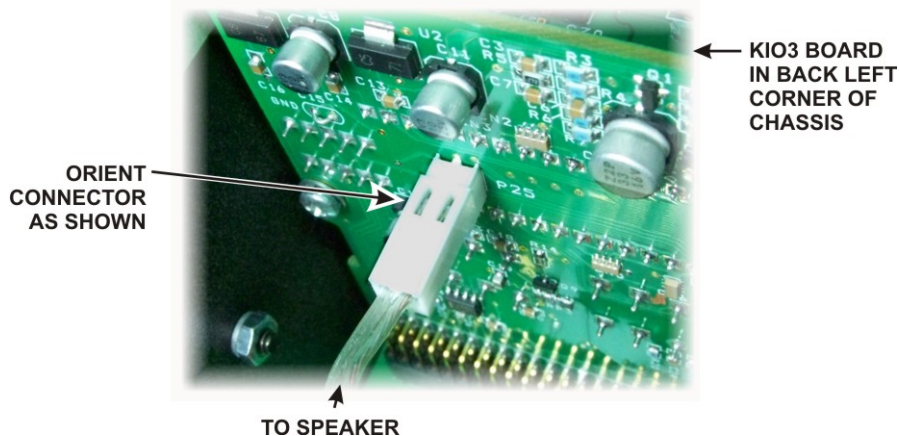

Figure 16. Connecting Speaker Cable.
- Hold the top cover above the K3, route the speaker wire under the stiffener bar and plug it into P25 on the KIO3 board at the left rear of the K3 as shown in Figure 16.